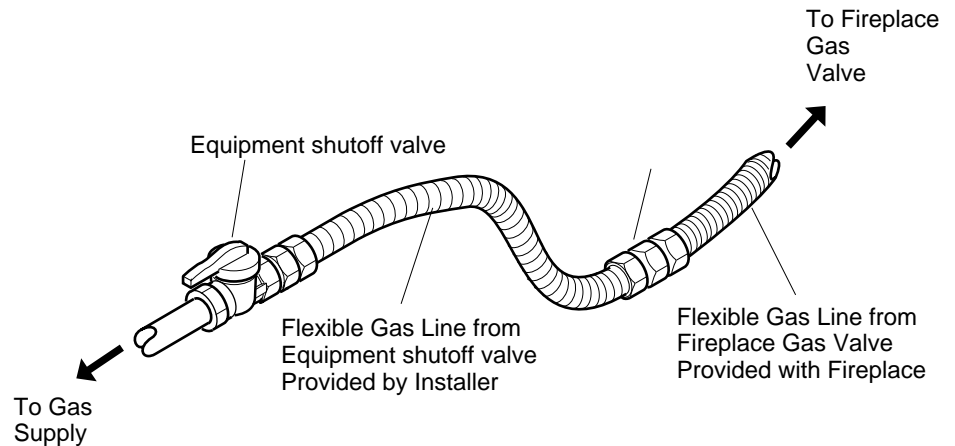

Figure 24 - Attaching Flexible Gas Lines Together
4. Apply pipe joint sealant lightly to male threads of gas connector attached to flexible gas line (see Figure 24). Connect flexible gas line to flexible gas line attached to gas valve of fireplace (see Figure 24).